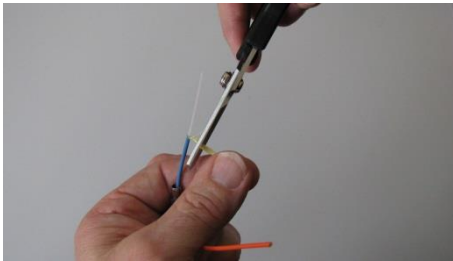

Figure 8
2.5. Cut the strength member down to approximately up to 5mm (figure 8).